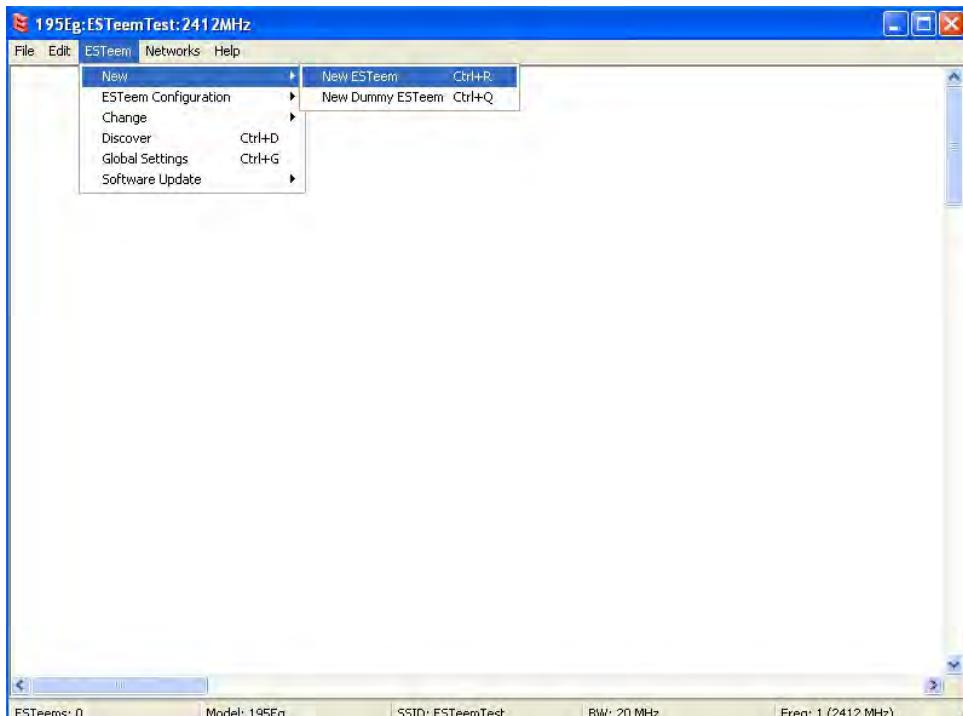

Figure 9: Adding ESTEEM to Blank ENC Configuration Page
1. Consult the ENC Utility's User Guide on how the create a new wireless network. Once you have a blank network configuration page (Figure 9), select ESTEEM from the menu items to display the drop down menu, then select New>New ESTEEM.